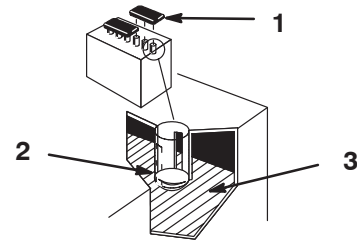

Figure 36
1. Open covers to see into the cells. The electrolyte must be up to the lower part of the tube (Figure 36). Do not allow the electrolyte to get below the plates. (Figure 36).
2. Lift off the filler caps (Figure 36).
3. Slowly pour distilled water into each battery cell until the level is up to the lower part of the tube (Figure 36).